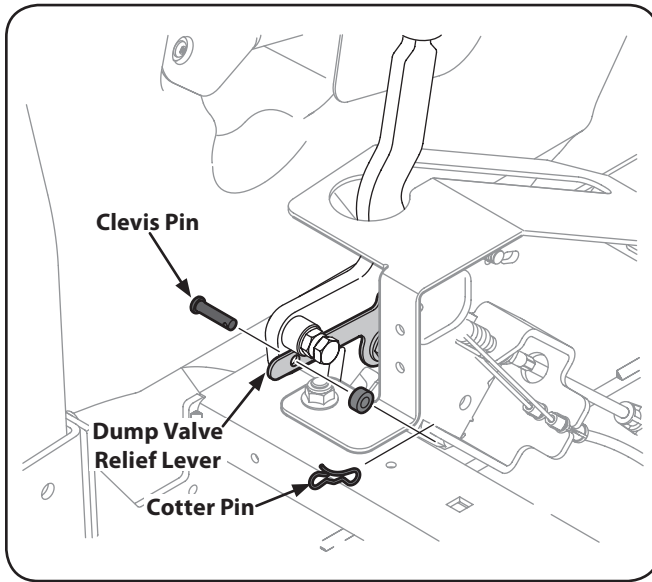

Figure 3-3
- To release the parking brake, flip the seat forward and locate the cotter pin and clevis pin that secure the dump valve relief lever to the parking break handle. See Figure 3-3.